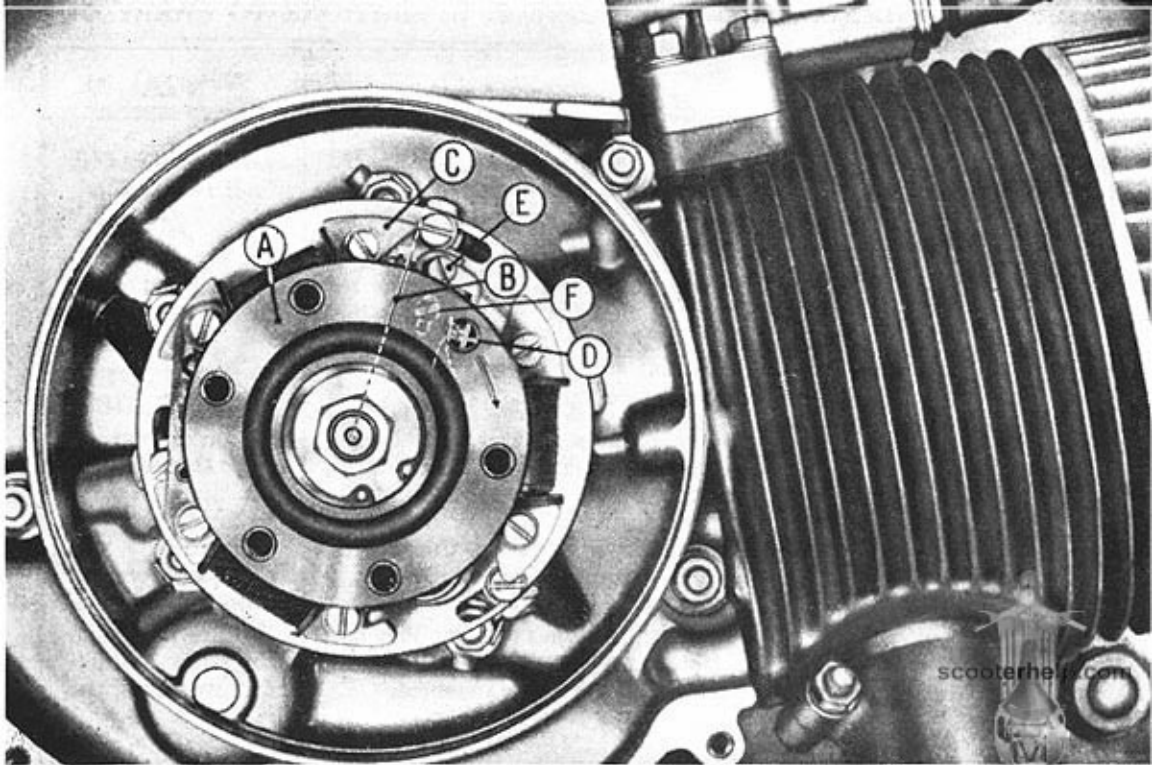

Fig. 19—Operations for checking the "magnetic" timing of the flywheel.
2. Clean and if necessary, adjust the contact breaker points (fig. 19). To avoid faulty ignition or other defects check the flywheel timing (see page 28). **Refer to your Dealer for this operation.**